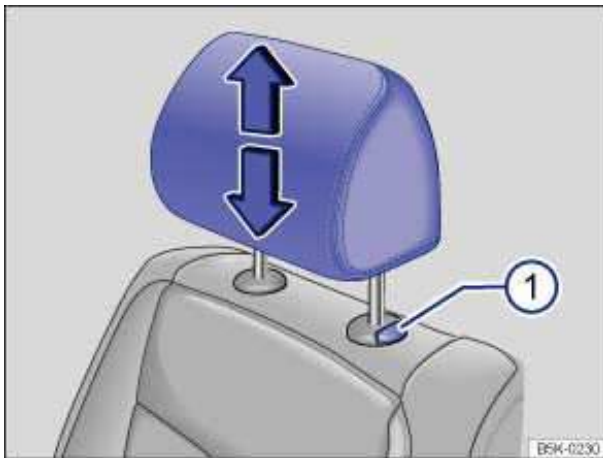

Fig. 34 Adjusting the head restraints.
- Push the head restraint up in the direction of the arrow or down when the button ⇒ fig. 34 \(1\) is pressed ⇒ ⚠.